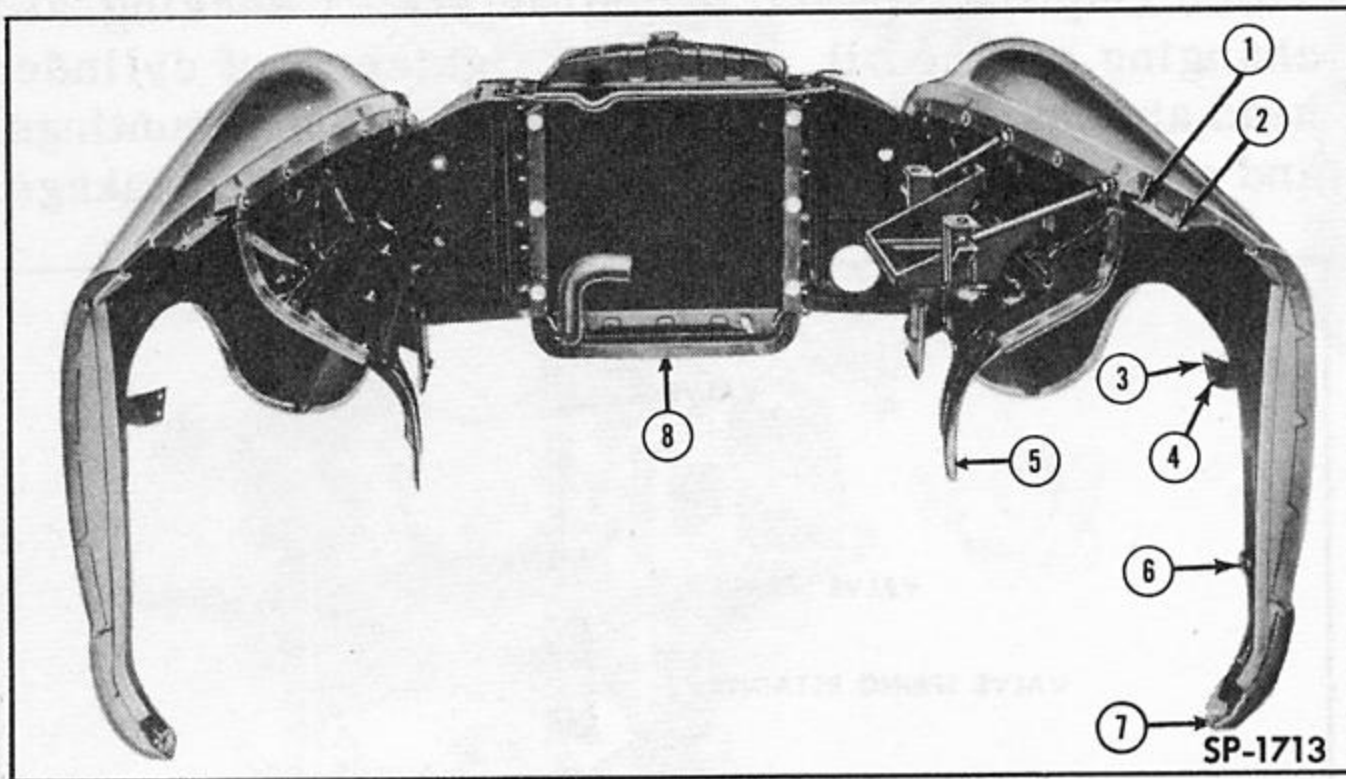

Fig. 21—Front End Sheet Metal and Radiator Assembly
3. Remove bolts from both sides at locations indicated in Fig. 21 and lift off complete front end sheet metal and radiator assembly.